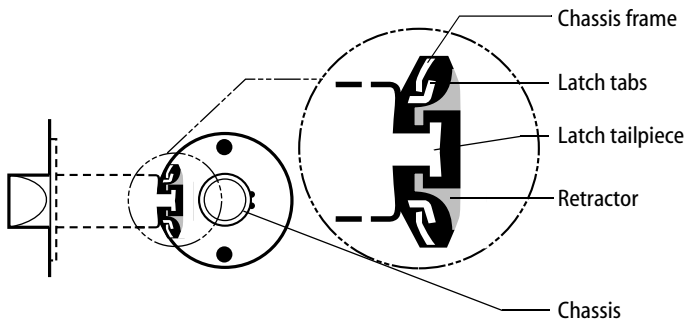

Figure 5 — Engaging the latch in the retractor
- With the latch in place, install the chassis from the outside. Make sure the latch tabs engage the chassis frame and the latch tailpiece engages the retractor. See Figure 5.